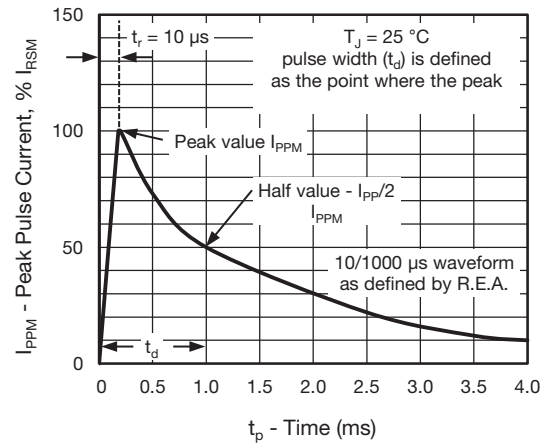

Fig. 3 - Pulse Waveform
- (1) Non-repetitive current pulse per fig.3 and derated above  $T_A = 25$  °C
- (2) Surge current waveform per fig.3